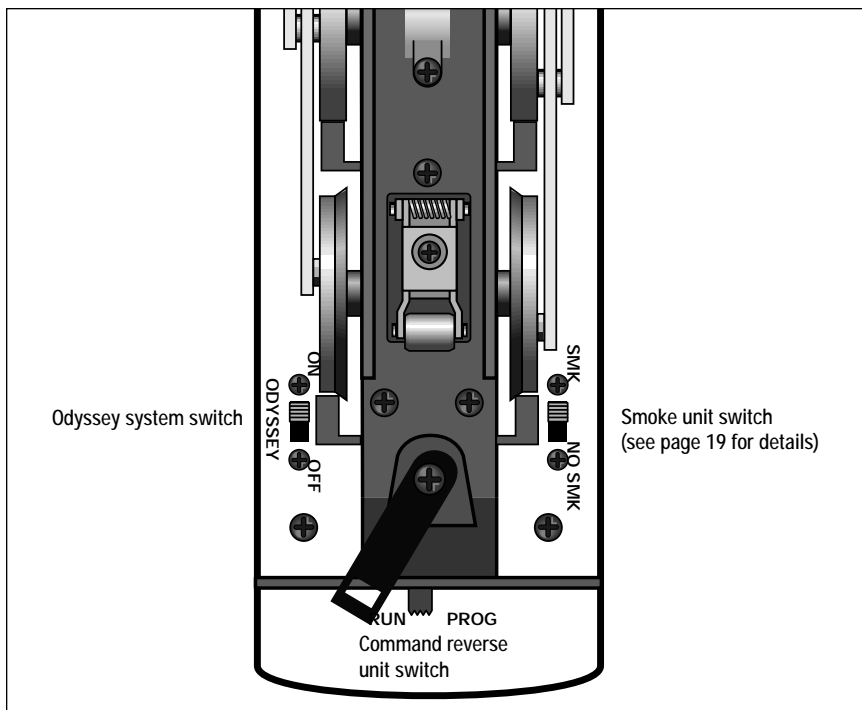

Figure 2. Switch locations
Get your locomotive moving in the desired direction, then *slow it down without stopping*. Set the Command reverse unit switch to PROG. Refer to Figure 2 for the location of the switch. The locomotive is now “locked” into your chosen direction.
**T**he Odyssey System is automatically operational when you operate your locomotive in conventional (non-Command Control) mode, as long as the Odyssey switch is in the ON position (see Figure 2 on page 5). This means that your locomotive will maintain a constant speed, compensating for grades, loads, and turns. Simply use your transformer’s throttle to adjust the speed of your locomotive. If you would like to deactivate the speed control feature, slide the Odyssey switch to the OFF position while the locomotive is not in motion.
Use your CAB-1 Remote Controller to turn the Odyssey System speed control on or off. **The position of the Odyssey switch (see Figure 2 on page 5) is the Odyssey System default setting when you power up the locomotive.** You may override the default with the following commands. The override settings will be cleared and the default settings will be restored when the locomotive is powered down.